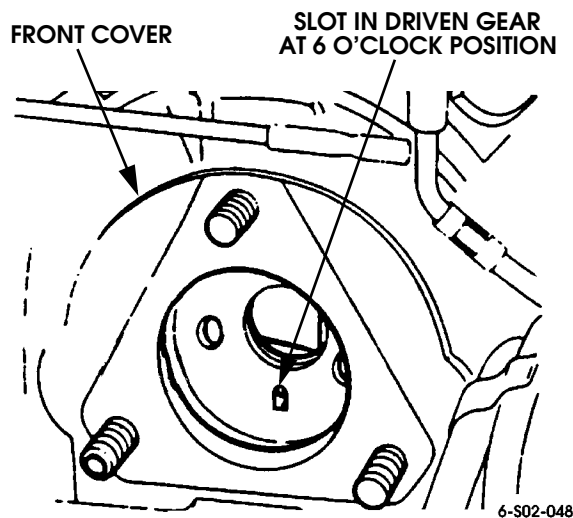

Figure 2-192: Checking Injection Pump Driven Gear Slot Position
- c. Verify that timing marks on pump drive and driven gears are aligned. Also be sure slot in rear of driven gear is at approximate 6 o'clock position (Figure 2-192).